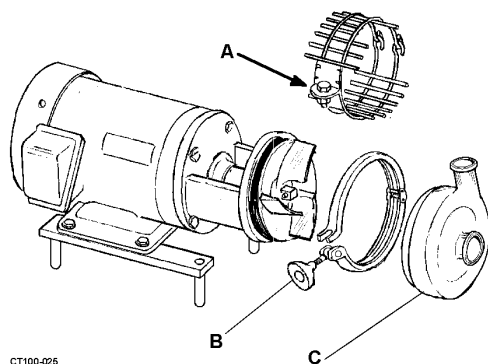

Figure 28 - Casing Clamp Guard Assembly
8. Place the casing over the impeller/backplate, then close and tighten the clamp. See Figure 28.